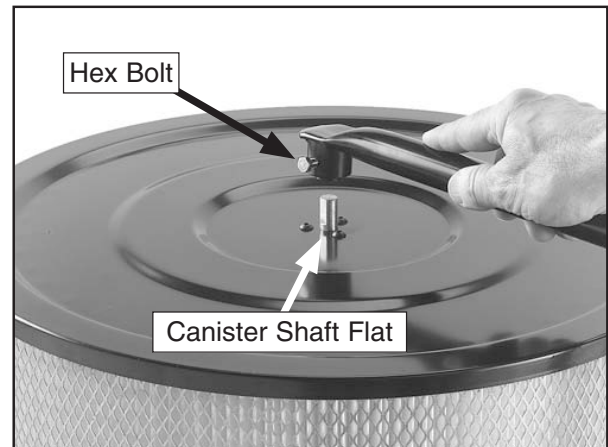

Figure 22. Installing the canister cleaning handle.
10. Align the hex bolt of the canister cleaning handle with the flat of the canister shaft, as shown in **Figure 22**, place the handle on the shaft, then tighten the hex bolt.